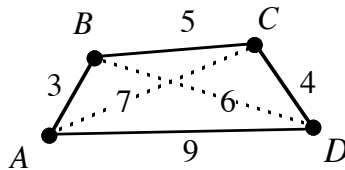

Figure 6: Completing a Hamiltonian circuit
- To complete a Hamiltonian circuit, return to the original vertex. For example, Figure 6 shows the edge marked from D to A.